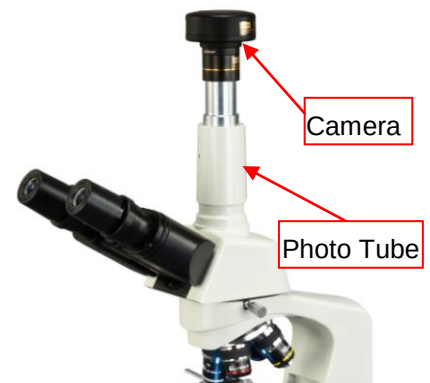

Fig.4
- 2) Insert the camera into the photo tube, and then connect the camera to a computer via USB2.0 cable. See **Fig.4**.